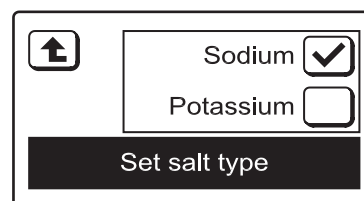

FIG. 68
5. Press the **SET SALT TYPE** button and the display will change to show the **Set salt type** screen (See Figure 68).